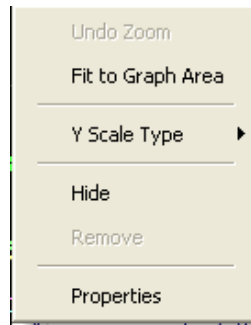

Figure 9.21 Real-Time Graphs Pop-Up Menu
- Step 2** A pop-up menu appears (Figure 9.21).